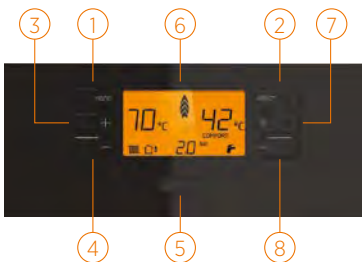

Figure 28 Lawa Plus combi control panel
At that position, combi operates both for heating the environment and providing hot tap water. Radiator temperature adjustment is made with (3) and (4) numbered buttons in Figure 28, Domestic Hot Water temperature adjustment is made with (7) and (8) numbered buttons and this temperature is indicated with (10) numbered indicator for Radiator and with (12) numbered indicator for Domestic Hot water.